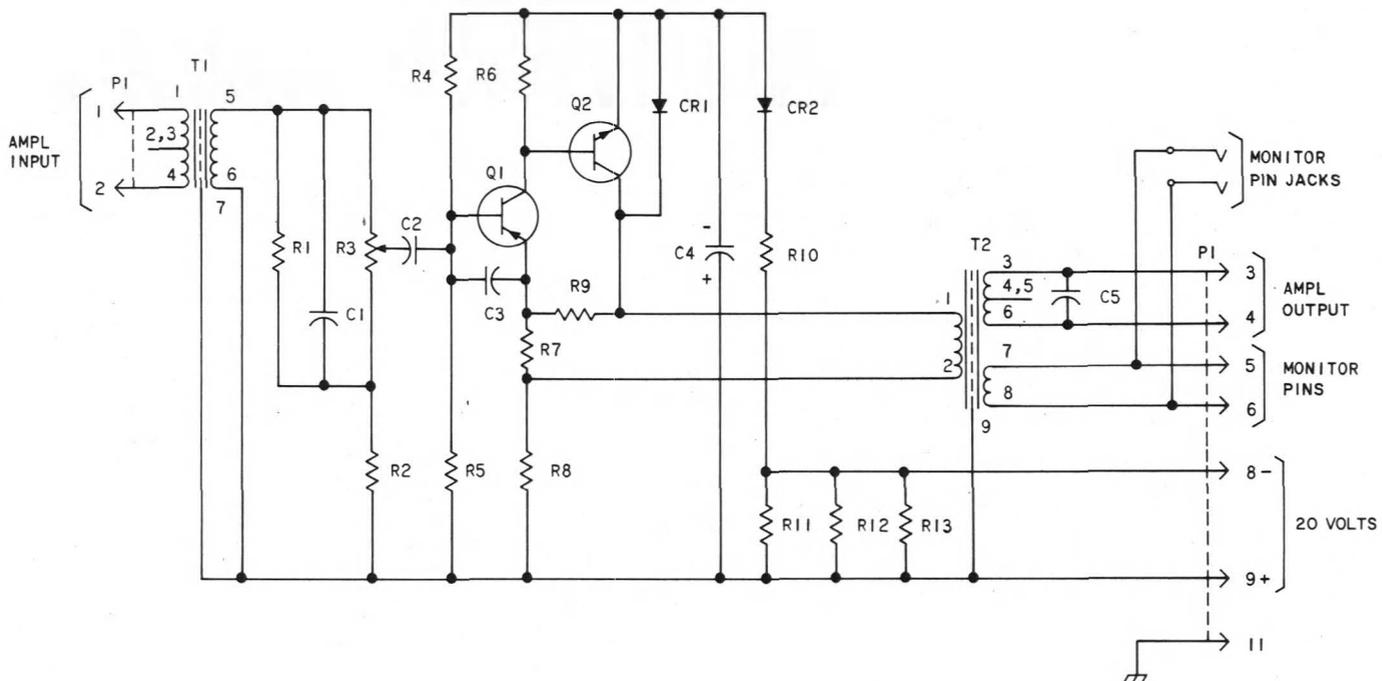

Fig. 2—KS-20378 Amplifier—Schematic Diagram
**3.01** The KS-20378 amplifier schematic is shown in Fig. 2. The circuit consists of two transistors, input and output transformers, a gain control potentiometer, resistor, capacitors, diodes, and monitoring jacks.